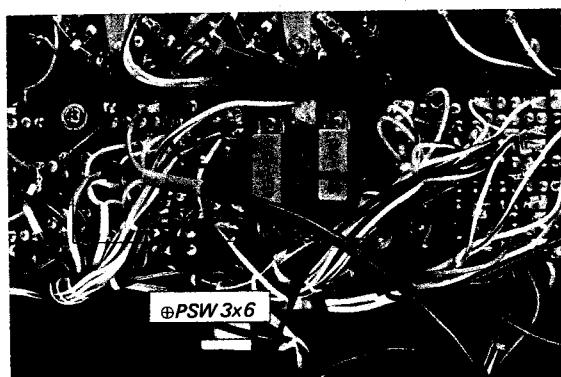

Fig. 2-7. PC board removal
2. Remove the two screws ( $\oplus$  PSW 3x6) securing the PCB to the front subchassis as shown in Fig. 2-7.